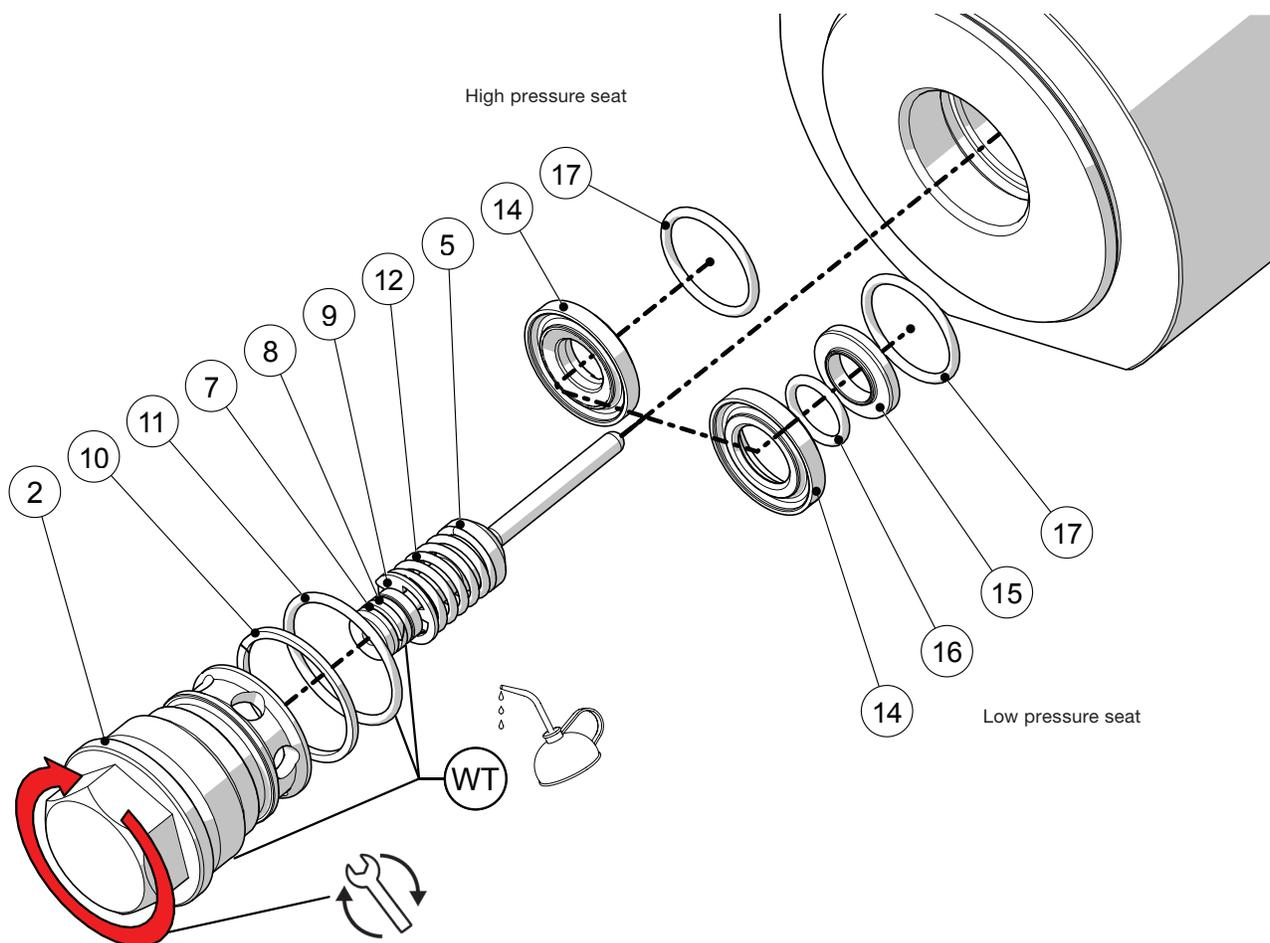

Figure 15
See Figure 15.
1. Fit the body plug back up ring (10) and body plug O-ring (11) onto the body plug (2). Ensure that they are ordered correctly, as shown in Figure 15.
2. Lightly lubricate the body plug O-ring (11) and the body plug thread (2).
3. Lightly lubricate the poppet O-ring (8) and the surrounding area of the poppet (5).
4. Insert the poppet assembly fully into the body plug (2).
5. For both types of seat fit the seat O-ring (17) onto the raised boss on the back of the seat housing (14).
6. For low pressure seats fit the LP seat insert O-ring (16) and LP seat insert (15) into the seat housing (14).
7. Fit the seat assembly into the body ensuring that the seat O-ring (17) is facing towards the body (4).
8. Insert the body plug (2) and poppet assembly through the seat and body insert.
9. Torque the body plug (2) according to table below.